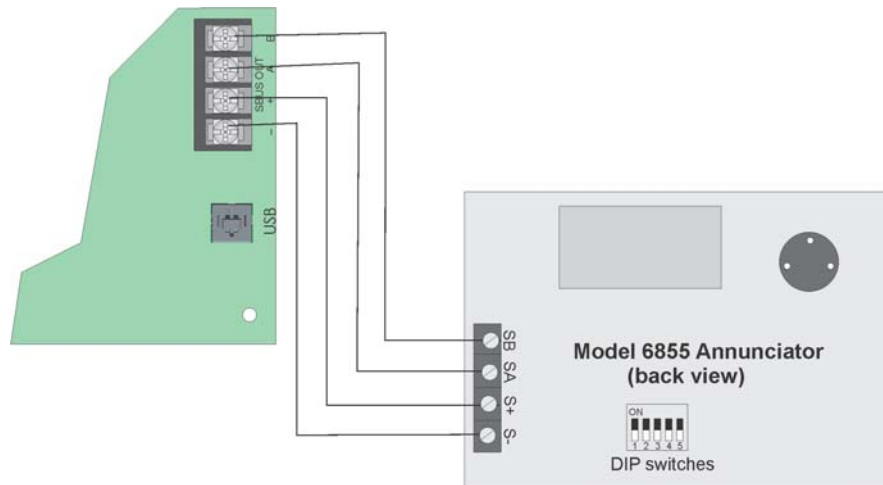

Figure 4-20 FACP Connection to 6855
3. Wire the Annunciator board to the main control panel. See Figure 4-20.